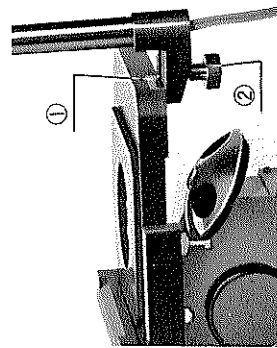

Fig. 1
- (1) Slide the dovetail base of the pillar into the groove ① and tighten the clamping screw ② with a steel bar provided. (Fig. 1)
Two dovetail grooves are provided on the underside of the stage so that the pillar can be mounted either at the front or rear side of the stage according to your preference. (Fig. 1 & 2)